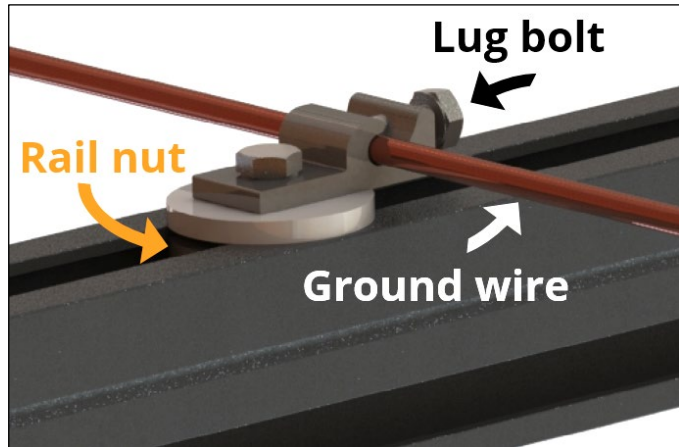
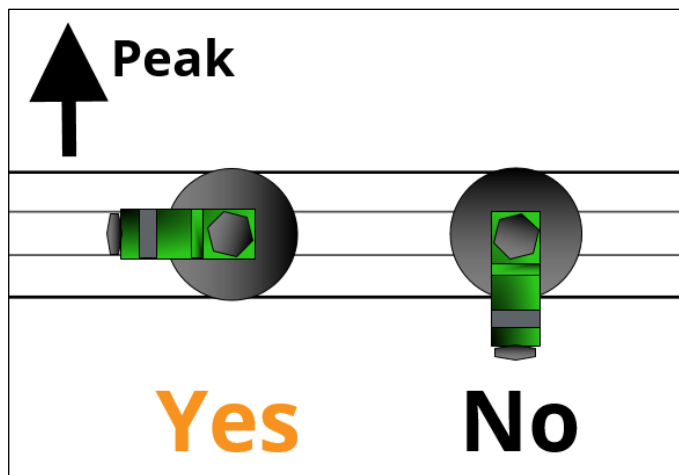
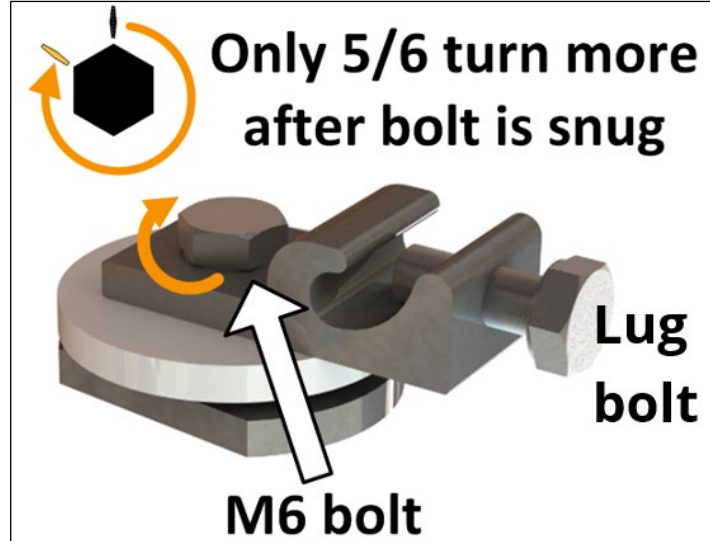

Fig. 13
Fig. 14
Fig. 15
2. Position the washer directly over the rail nut (Fig. 13), and then use the M6 bolt to attach the lug to the rail nut by first orienting the lug parallel to the array (Fig. 14), finger-tightening the M6 bolt, and then using a 10 mm deep socket to apply an additional 5/6 of a turn *only* (Fig. 15). Doing so provides 85 +5/-0 in-lb (9.6 N-m) of torque. **After tightening in this manner, verify the value with a torque wrench.**
3. Attach the copper ground wire to the lug as per NEC. Tighten the lug bolt (refer to Fig. 13) to 35 in-lbs (4 N-m).